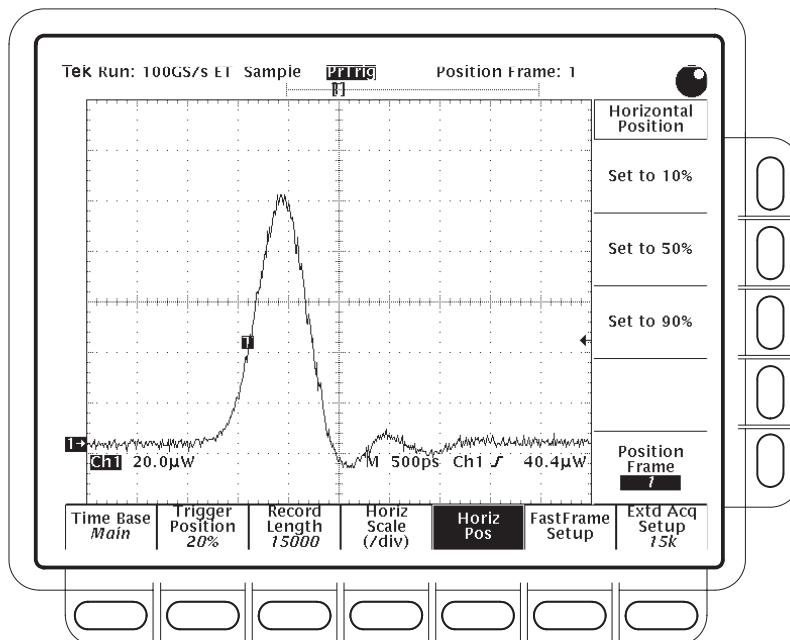

Figure 4-43: Optical impulse of Ch1 input from OA5022 Optical Attenuator (OIG501 / OIG502 fed into optical attenuator in Step 1)
- Adjust the **HORIZONTAL POSITION** to move the 20% trigger point onto the display (see Figure 4-43).